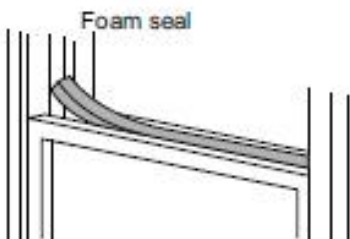

Fig. 12
- 5) Cut the foam seal to an appropriate length to seal the open gap between the top window sash and outer window sash. See Fig. 12.